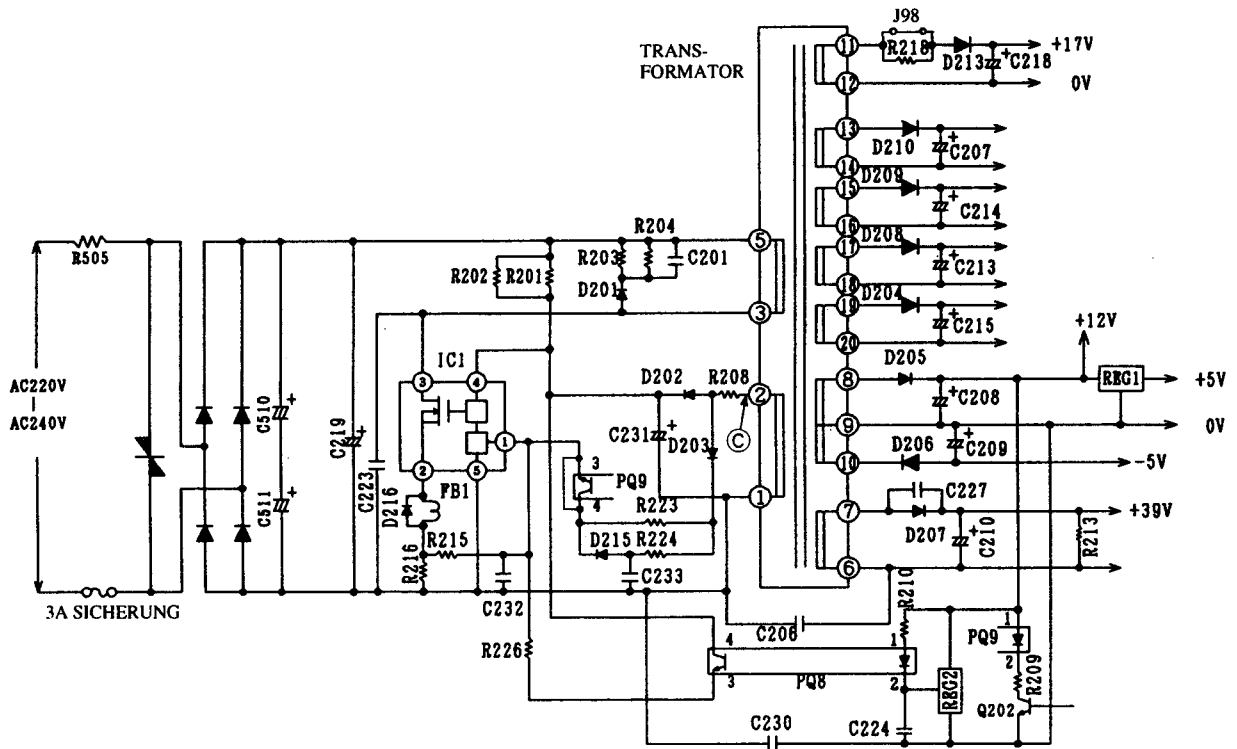

Abb. 4-1 Stromschaltkreis für Leiterplatte
(1) Shifting from OFF to ON
- DC about 300V is applied from smoothing capacitors C510 $\oplus$ and C511 $\ominus$ in the control power circuit. With this power, current flows to pin ④ of IC1 via R201 and R202 and IC1 starts to turn ON. Since voltage in the direction of arrow generates at point ③ at the same time, current passing through R208 and D202 is positive-fed back to IC1.
- Abb. 4-1 zeigt den Stromschaltkreis für die Leiterplatte und die Wellenform für jeden Punkt.